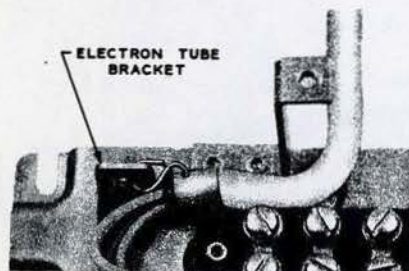

Fig. 16 - Method of Securing Mounting Cord in 685-Type Subscriber Set Networks
3.03 In 685-type subscriber sets, secure the mounting cord stayhook to the tube bracket as shown in Fig. 16.